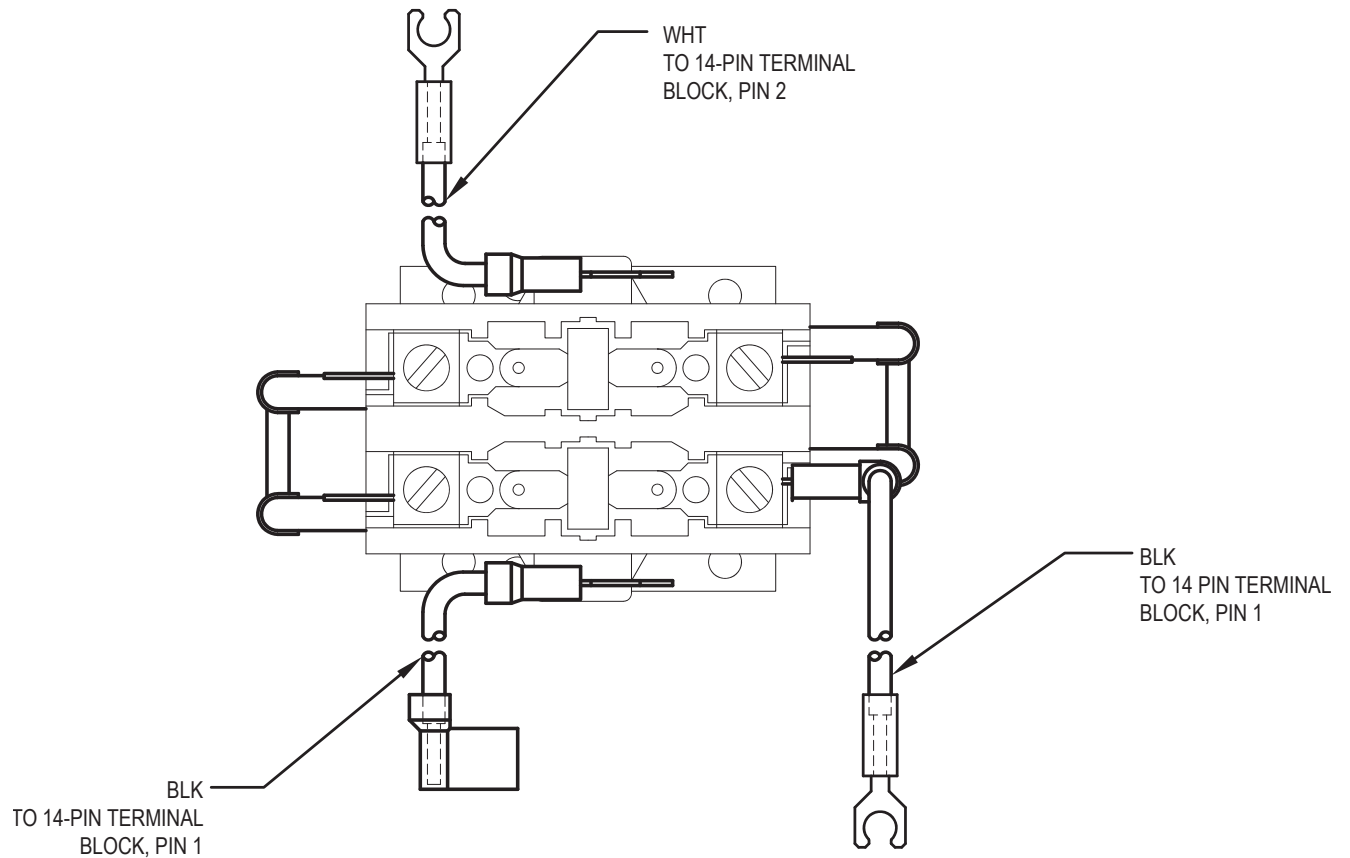
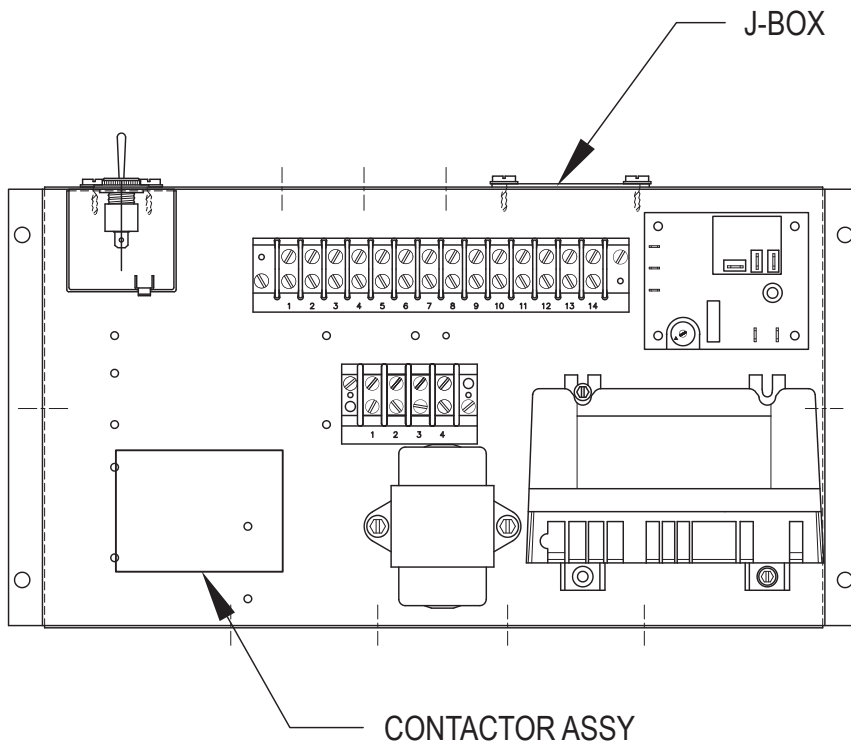

Figure 17. Contactor Assembly
Figure 18. J-box Assembly Models 2100-4001
6. Install the contactor assy provided in an available space inside the J-box. See **Figure 17** and **Figure 18**.